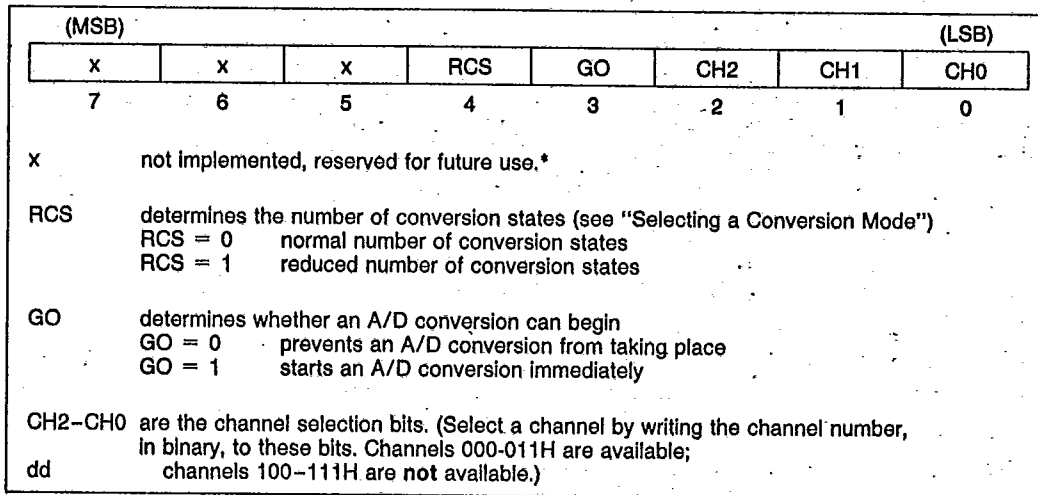
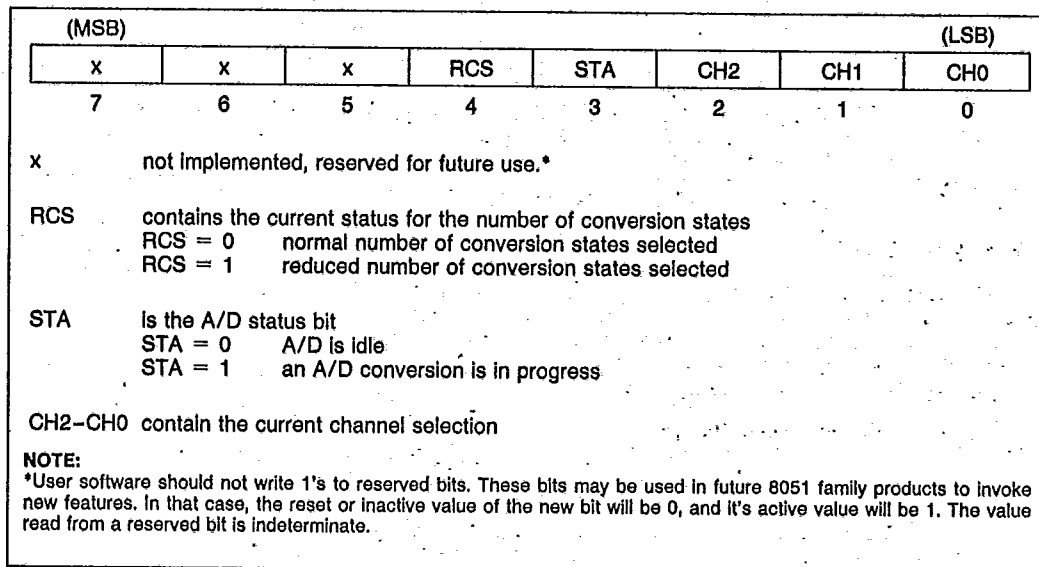

Figure 8. ADCON—A/D Control Register (Write-Only)
Figure 9. ADCON—A/D Status Register (Read-Only)
**ADCON Register**—The ADCON register functions as both a write-only control register (see Figure 8) and a read-only status register. The A/D transfers information to the Status register at the start of a conversion. When you read the ADCON register, the A/D supplies the status of the current conversion (see Figure 9). If a conversion is not currently in progress, the register contains the status of the last conversion.
The A/D supports two conversion modes: normal conversion states or reduced conversion states (see Table 10). The conversion mode is selected by programming the Reduced Conversion States (RCS) bit in the ADCON control register (see Figure 8).